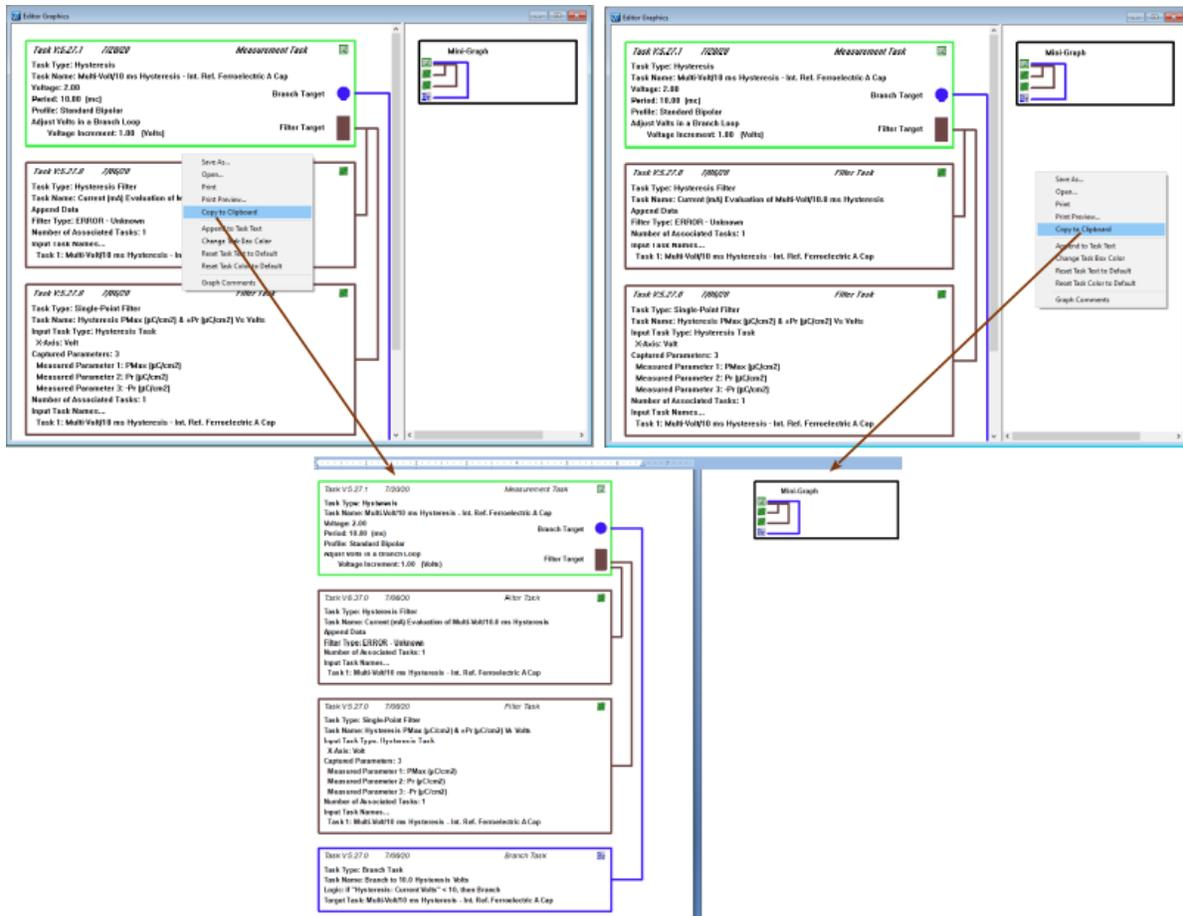

Figure 2 - Paste the Graph into Another Program.
Step 2: Open any suitable target program (Microsoft Word, in **Figure 2**) and select File->Paste or <Ctrl-V>. The list of Task boxes will appear. Note that the Graph is pasted as a single image. For longer Test Definitions, the image may be too long for the target program. It can be resized, but may require excessive adjustment for some programs. Programs that are not page, such as Microsoft Excel, will present the entire Graph.